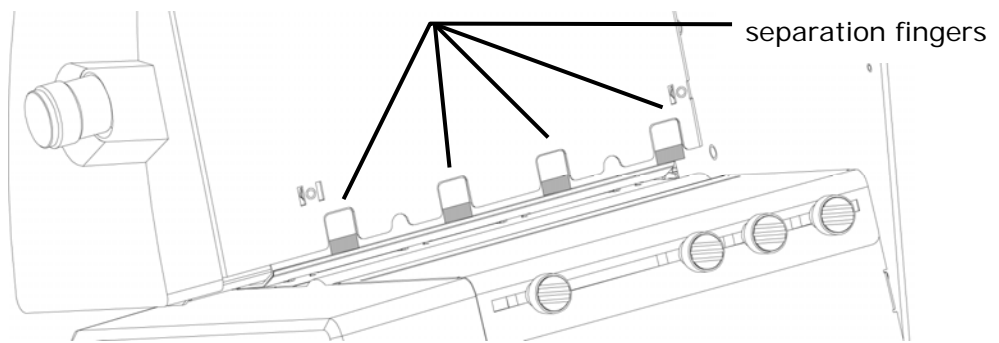

Figure 11: Separation fingers
- Unlock the separation lock knob (A) by turning it counter-clockwise.
- Set both separation adjustment knobs (B) to the mid-position. The mid-position is indicated by the two arrows ►►.
- Lift the complete separation by pulling the separation lock knob (A) upwards.
- Depending on your medium put one or two pieces under all four separation fingers (see Figure 11).